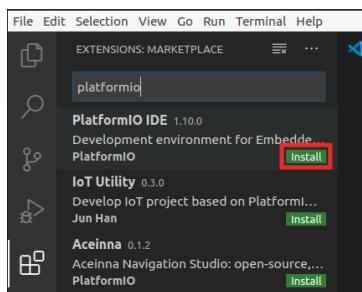

Figure 97. PlatformIO IDE Extension
4. Type *PlatformIO* in the search box and install the PlatformIO IDE by clicking on the install button next to it (see Figure 97).